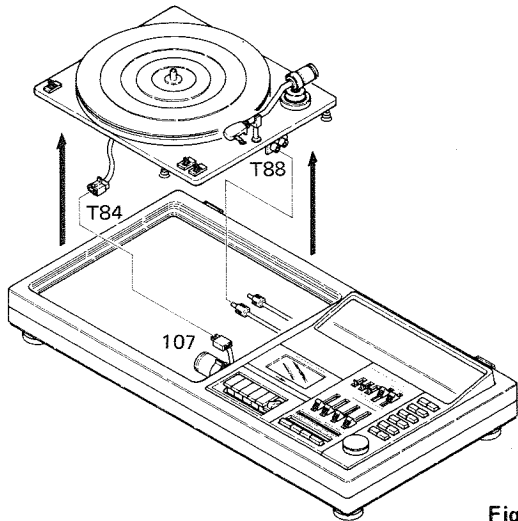

Fig. 1
A. Removing turntable unit (cf. Fig. 1)
1. First, dismount the turntable platter (T1) and the sheet (T91) on it. Next, remove the two special screws (19) fastening the turntable plate assembly (T10) to the main unit of the JXT4800HK. (cf. TURNTABLE EXPLODED VIEW)
2. Detach the lead socket (107) from the plug (T84) of the turntable power cord. Pull two RCA plug pins (108) out of the socket assembly (T88). Now, the turntable unit can be separated from the JXT4800HK unit.